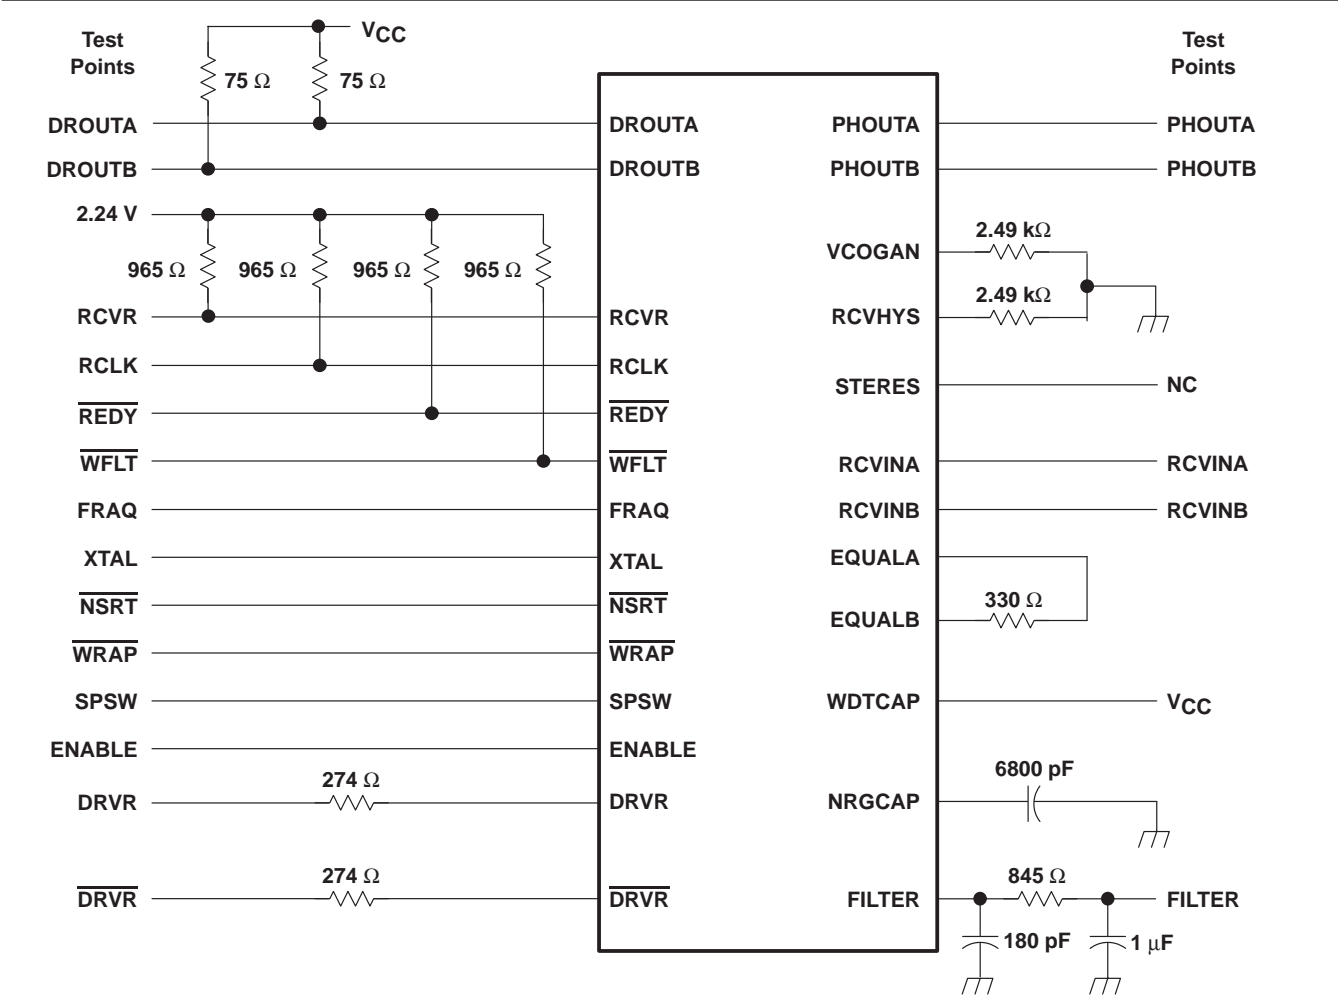
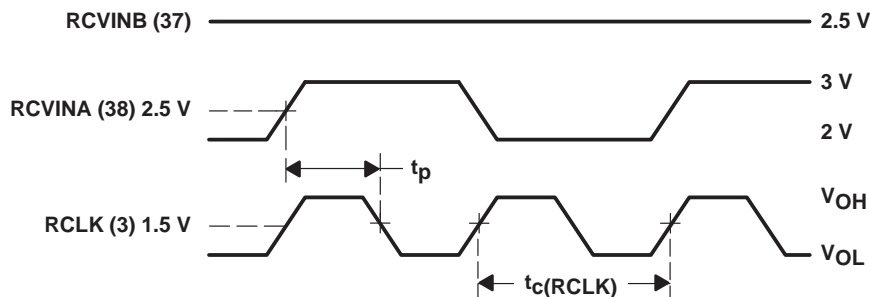

Figure 8. ac Test Circuit
Figure 12. Phase-Detector-Gain Test Timing
transmitter (see Figures 8 and 9)
RCLK and RCVR (see Figures 8 and 10)
loop parameters (see Figures 8, 11, and 12)
15. The circuit of Figure 8 is used to measure phase-detector gain with I_{FILTER} injected at the filter test point. Figure 12 shows the relevant timing. With the TMS38054 in phase lock, the propagation delay (t_p) between RCVINA positive transition and RCLK negative transition is measured. A value t_{p1} is seen when $I_{\text{FILTER}} = I_{\text{FILTER}1}$, and a value t_{p2} is seen when $I_{\text{FILTER}} = I_{\text{FILTER}2}$. The phase-detector gain is then calculated as $(I_{\text{FILTER}2} - I_{\text{FILTER}1}) \div (t_{p1} - t_{p2})$. The result is in $\mu\text{A}/\text{ns}$ (see external filter section).
data recovery (see Figures 8 and 13 and Note 16)
energy detect ($\overline{\text{REDY}}$) (see Figure 8 and Note 17)